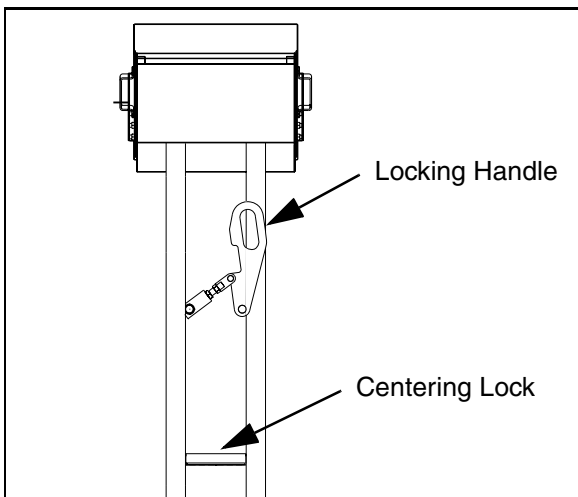

Figure 2. Repositioning Operator's Console
- 1) Lift the locking handle to release the console. (Figure 2)